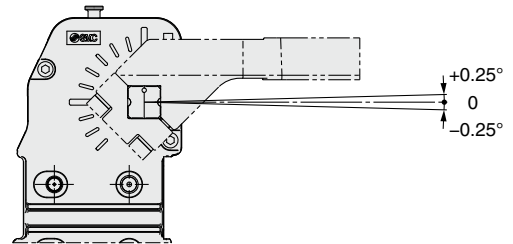

Figure 1
- 2) There is a mechanical difference of -0.25° to $+0.25^\circ$ at the clamping end as shown in Figure 1. Be sure to make adjustments externally using a shim. Refer to page 13.